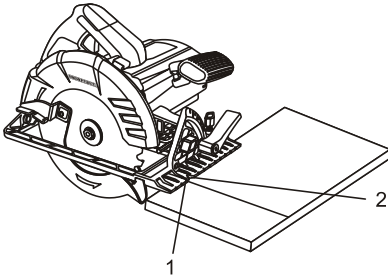

Fig. 10
NOTE: To align the saw blade with the cutting mark, use the guide marks on the front of the sole plate (Fig. 10). Use the 0° cutting mark (1) for right angle cuts. Use only the 45° mark (2) for 45° cuts. The 45° mark will allow for the extra material needed for the angle cut. Always make a test cut on a scrap workpiece before cutting the new material.